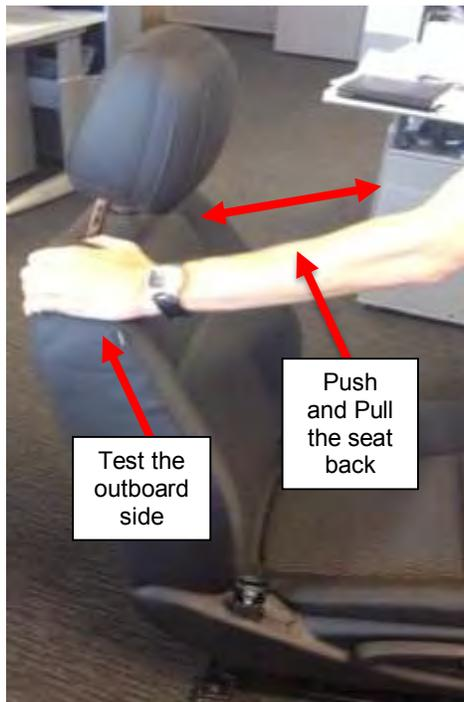

Figure 1
2. With the seat in place, push and pull on the top of the seat back on the outboard side of the seat with a similar force to that used when opening a door handle (5 KG), refer to figure 1.